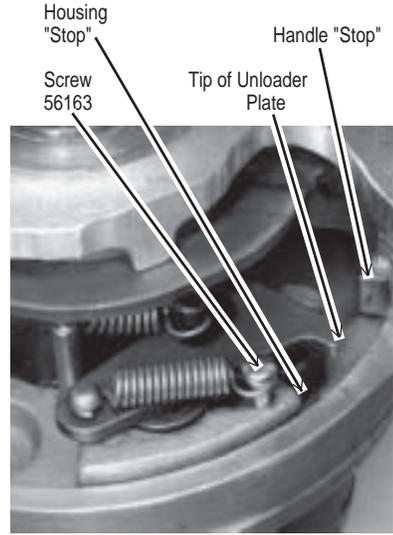

FIG. 2
Excessive battering and subsequent eroding of the "stop" surfaces of both the handle and housing can cause shearing of the housing spring retaining screw (056163). As the surfaces are eroded away, the clearance between the tip of the unloader plate and the screw is reduced enough to allow the unloader plate to strike the screw. (Refer to Fig. 2.) Screw shearing can also occur if the hoist is allowed to "self-ratchet". The momentum of the unloader plate can cause it to exceed its normal amount of travel and strike the spring screw.
1. Examine “stop” surfaces. The mating surfaces to the handle “stops”. Reasons for damage and possible malfunctions are the same as outlined in Section A, Part I. Replace housing if damaged or worn. (Refer to Fig. 2.)